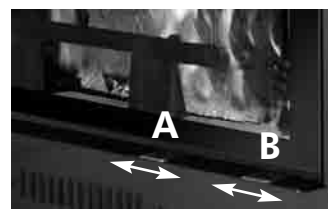

fig. 2
- Air regulation Control "A" (see fig.2) located under the door regulates the amount of air that is necessary for the combustion process.
- To open the door, it must be locked in the closed position, positioning control "B" (see fig. 2) under the door all the way to the right.